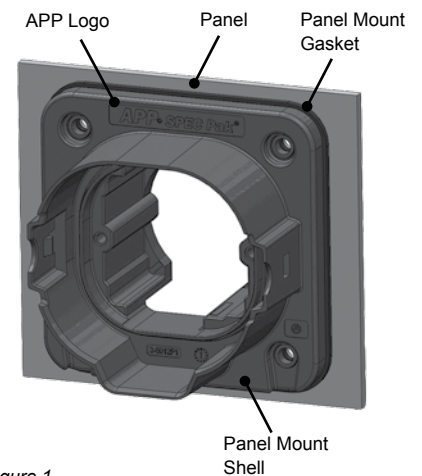

Figure 1
- Orient shell with APP SPEC Pak® up. (See figure 1)
- Sandwich panel mount receptacle gasket between panel and panel mount receptacle shell. (See figure 1)
- Secure the panel mount receptacle shell and gasket to the panel with four (4) each M4 or #8 screws (not included) in an alternating manner. Suggested torque 7 - 10 in-lbs.